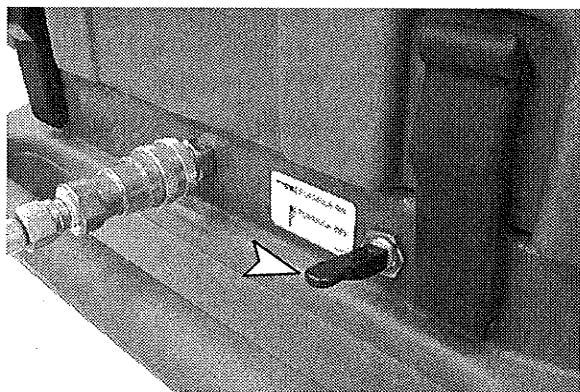

FIG. 11
3. Turn the FORMULA ON/OFF lever to the ON position, located at front of machine (Figure 11).